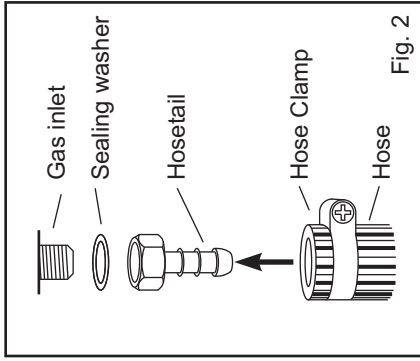

Fig. 2
- **Important note:** As this heater is only to be installed outside, it is important in very cold conditions to first shut off the gas supply and then the water to allow the water to run out of the heater. Failure to do this could cause the water inside the heater to freeze up which may result in damage to the heater. To ensure that there is no water left in the heater open the excess water drain valve at the bottom of the heater and drain off the water. (see Fig 2). Don't forget to close the drain valve after the water has stopped draining from the water heater.